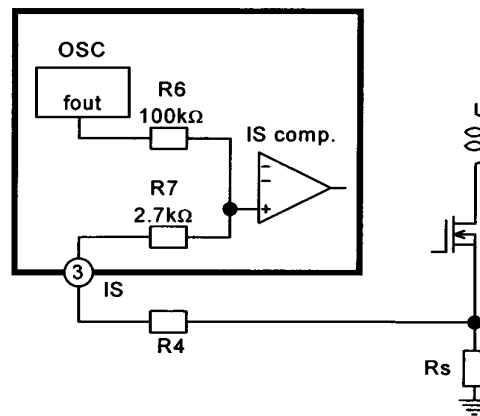
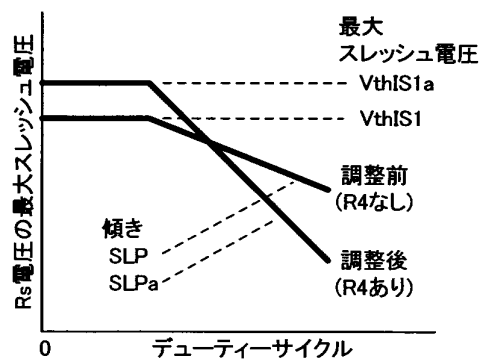

Fig.32 Adjustment of slope compensation
Fig.33 Maximum threshold voltage after adjustment
(6) Slope compensation
As described in “9-(6) Slope compensation,” slope compensation is implemented by adding a ramp signal generated from the oscillator to IS pin voltage using resistors 100kΩ and 2.7kΩ as shown in Fig.32. Adding R4 can change the magnitude of slope compensation as shown in Fig.33.